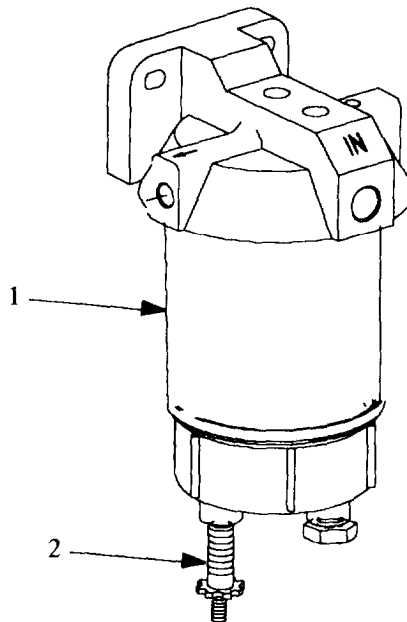

Figure 3-3.1. Water/Filter Separator Servicing (Model 350 PAWN).
- c. On Model 350 PAWN open drain valve (figure 3-3.1, 2) and drain water from separator (1) until clean fuel is observed. When clean fuel is observed close drain valve,